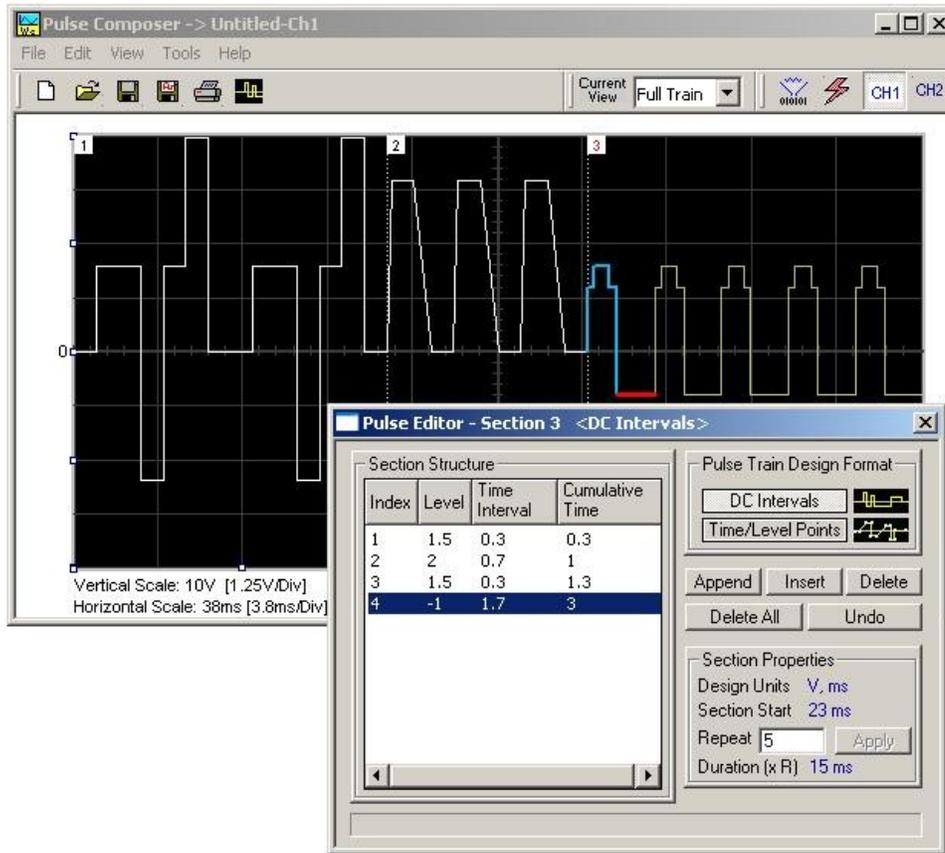

Figure 4-35, Building Section 3 of the Pulse Example
**Pulse Example, Section 3** The second pulse section is complete. We are ready now to start building the third section of the pulse as shown in Figure 4-35. Point and click on the Edit command and select the Append Section option. A new section number will appear but it will show empty next to the section identifier.
Before you start entering values to this section, note that there are fast transitions required for this section. Therefore, select the DC Intervals option in the Pulse Train Design Format. You are now ready to start programming values. In case you made a mistake and want to switch design formats after you have already typed in some values, the Pulse Editor will show an error alerting you that design format can only be changed for empty section. In this case, the only way to recover is to delete all entries and start from an empty index list. Type the section entries as shown in Figure 4-35.